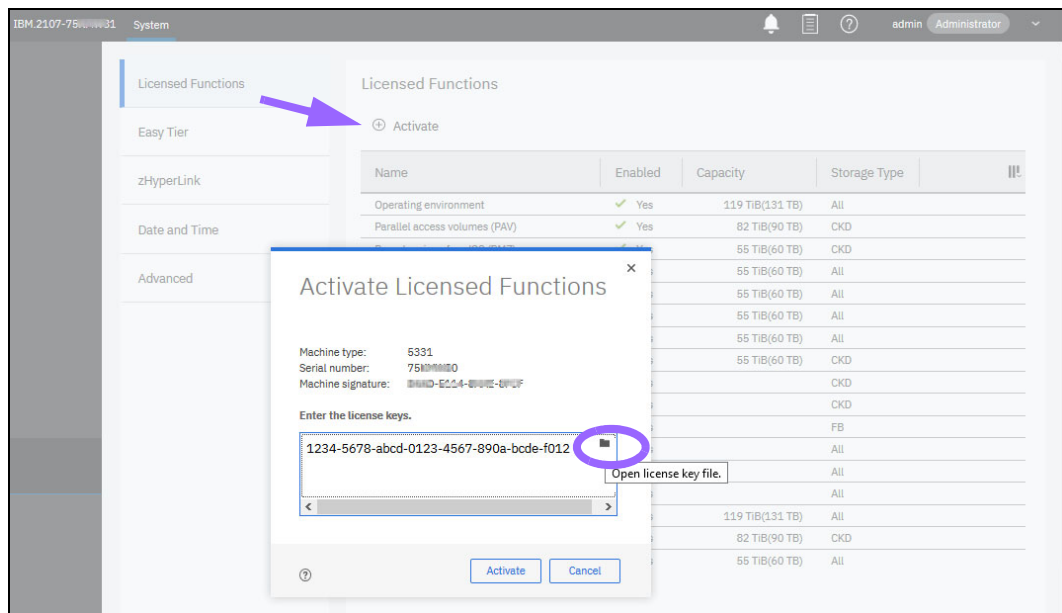

Figure 7-13 Activating more licenses in the GUI
- Click **Settings** → **System** → **Licensed Functions** → **Activate** to enter the activation codes after the initial installation. Click the black symbol to import the XML file, or alternatively, you can enter individual license keys, as shown in Figure 7-13.